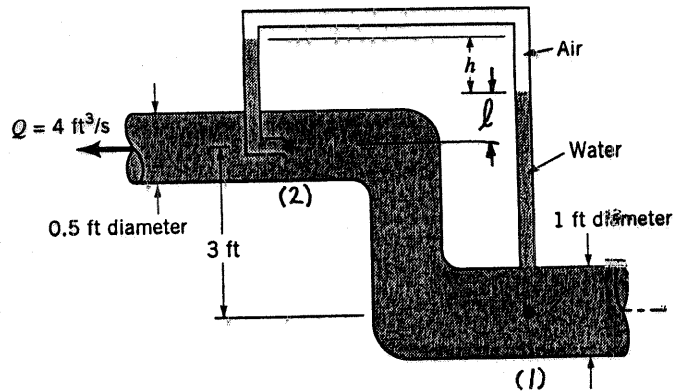

FIGURE P3.71
3.71 Water, considered an inviscid, incompressible fluid, flows steadily as shown in Fig. P3.71. Determine h .